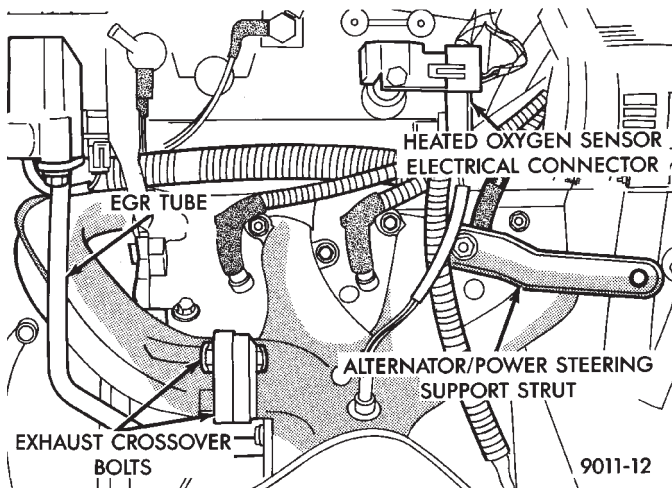

Fig. 16 EGR Tube, Heated Oxygen Sensor and Alternator/Power Steering Strut
- (1) Raise vehicle and disconnect exhaust pipe from rear cowl side exhaust manifold at articulated joint.
- (2) Separate EGR tube from rear manifold and disconnect Heated Oxygen Sensor lead wire (Fig. 16).
- (3) Remove Alternator/Power Steering Support Strut (Fig. 16).
- (4) Remove bolts attaching cross-over pipe to manifold (Fig. 16).
- (1) Install rear exhaust manifold and tighten attaching bolts to 23 N•m (200 in. lbs.) torque.
(2) Attach exhaust pipe to exhaust manifold and tighten shoulder bolt to 28 N•m (250 in. lbs.) torque.
(3) Attach crossover pipe to exhaust manifold and tighten bolt to 33 N•m (25 ft. lbs.) torque and connect heated oxygen sensor lead (Fig. 16).
(4) Install EGR Tube and Alternator/Power Steering Strut (Fig. 16).